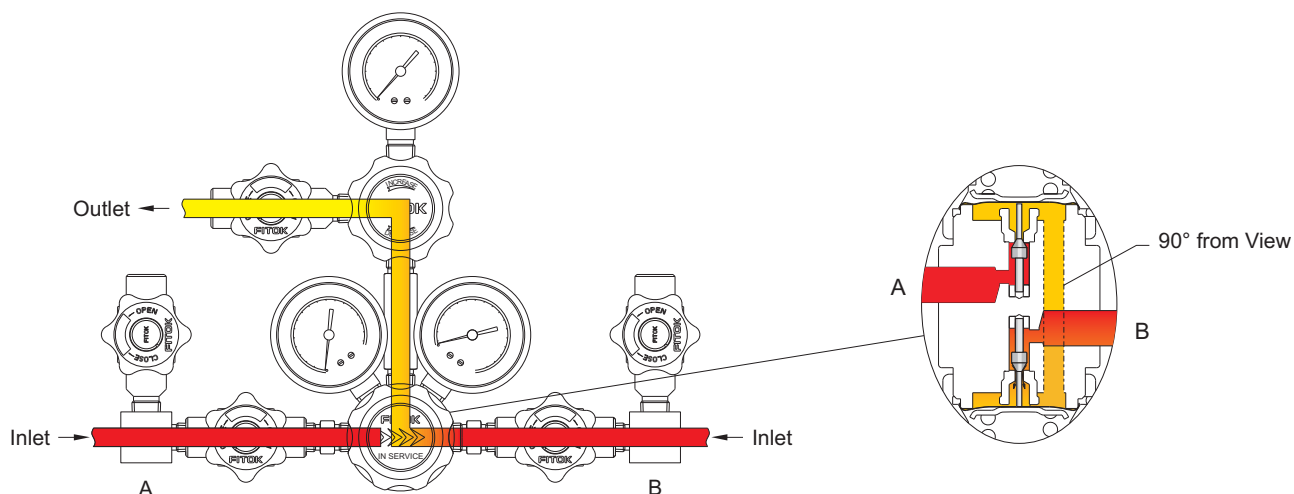

Fig. 1
*Fig. 1 When the "In Service" arrow is pointing at side B, side B would be the gas source. At this time, the fixed outlet pressure of side B is higher than the set pressure of side A. Consequently, the diaphragm of side A regulator moves to enable the stem to close the regulator.*